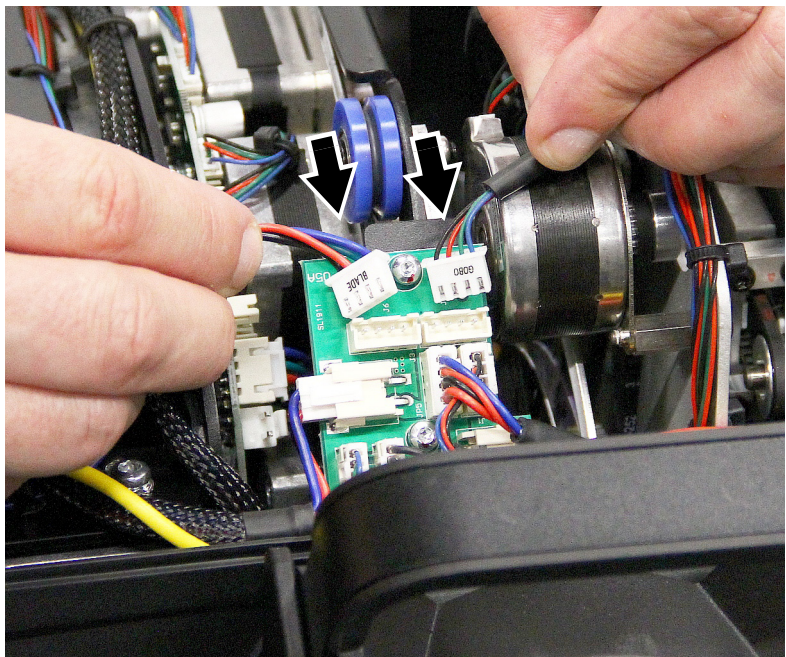

Figure 29: Reconnecting the effects modules
15. See Figure 29. On the effects modules connector PCB, connect the modules as follows: